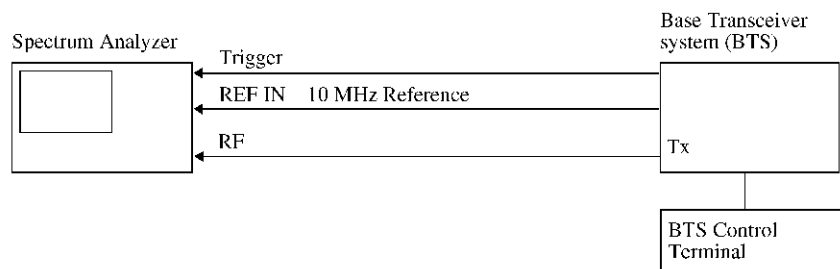

Figure 2-23 Setup for the measurement of the QPSK signal
1. Connect the unit under test as shown in Figure 2-23.